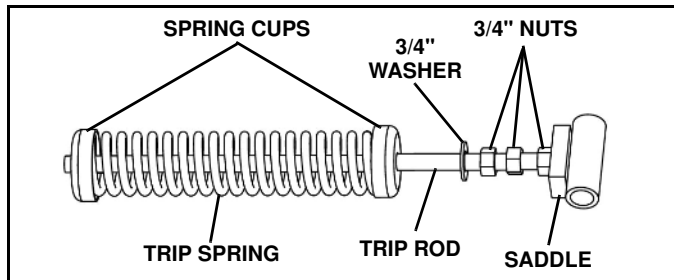

Figure 1-11
3. Install three 3/4" nuts onto the long threaded end of the spring trip rod. (See Figure 1-11)